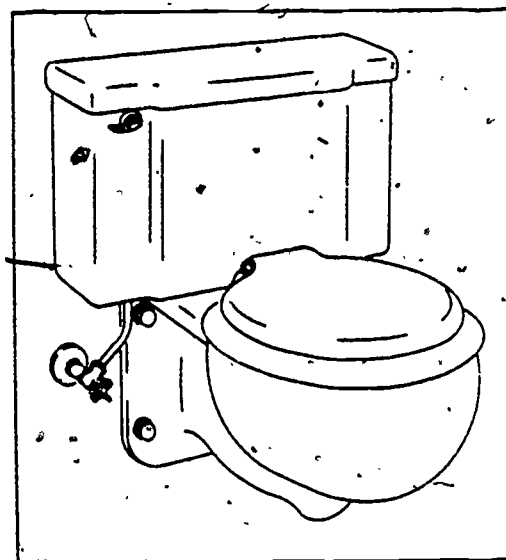

Figure 2-28. Wall-mounted water closet.
b. **Wall-mounted water closet.** The wall-mounted water closet, illustrated in figure 2-28, operates on the same principles as the floor-mounted unit. It is designed with a tank mounted on the back of the closet bowl and is usually referred to as a close-coupled water closet. However, a wall-mounted water closet may be procured with a water flush valve instead of a tank. The flush tank is used more extensively in residences; whereas the one equipped with a flush valve is used in public places.